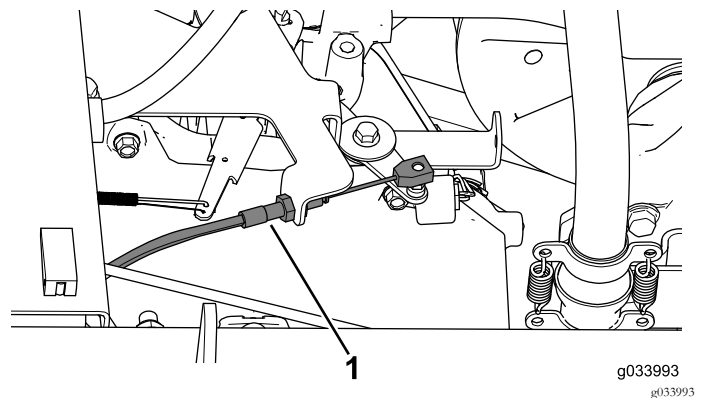

Figure 9
3. Disconnect the throttle cable from the throttle lever and remove it from the throttle bracket (Figure 9).